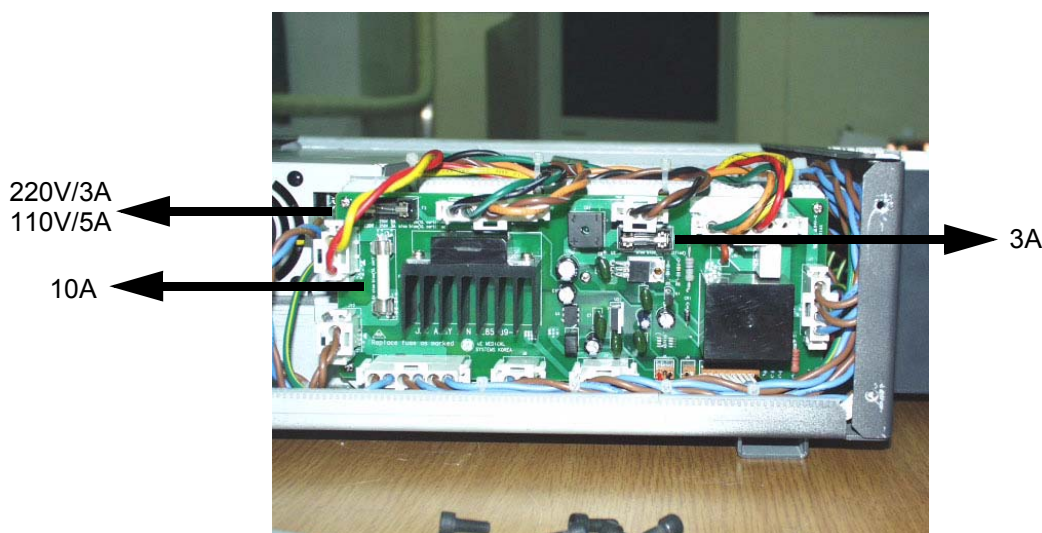

Figure 8-137 Removing the Fuse
- 1.) Unscrew four (4) screws (1-4) to remove Left side cover of AC Power assy.
- 2.) Remove the Fuses. Refer to Figure 8-137 on page 8-85 .